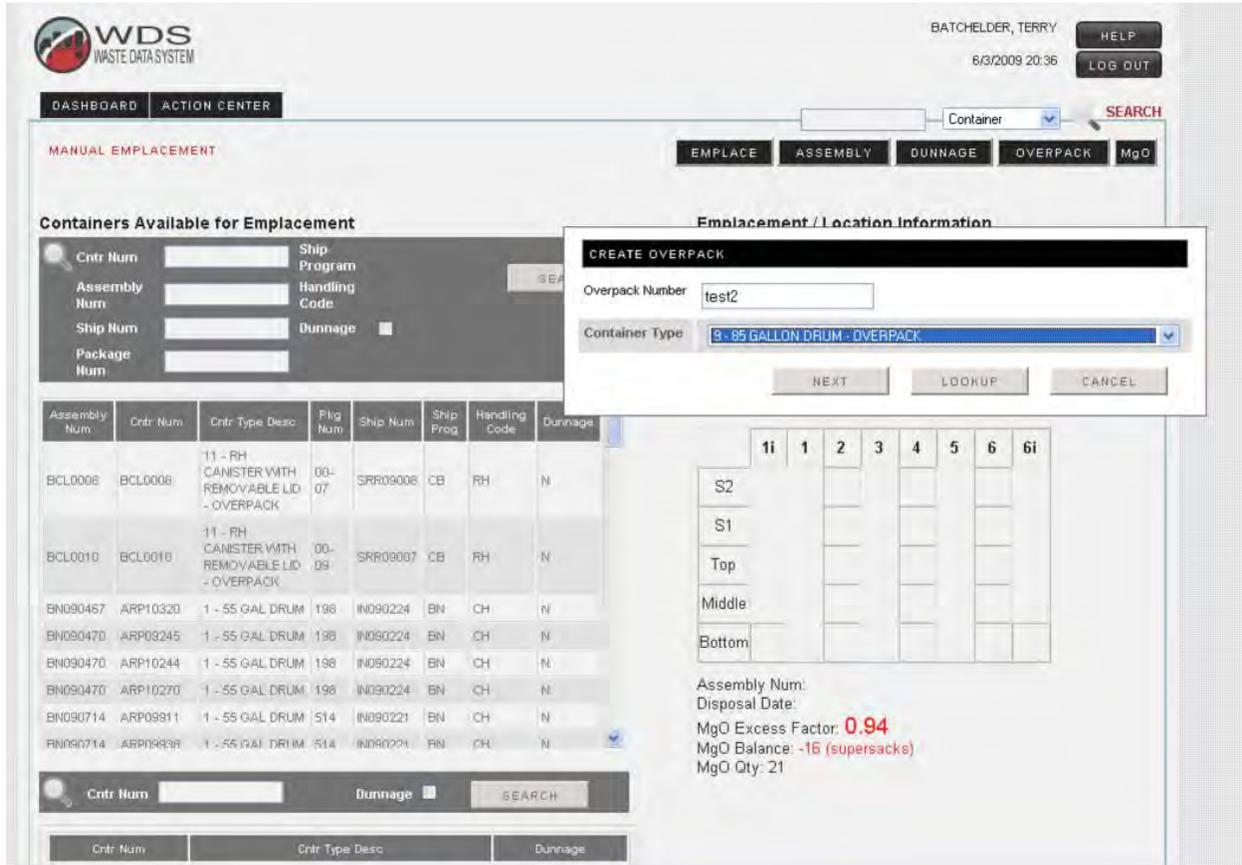

Figure 5 - 5 – Overpack Screen
B. Click on **Overpack** button as shown in Figure 5 - 5.